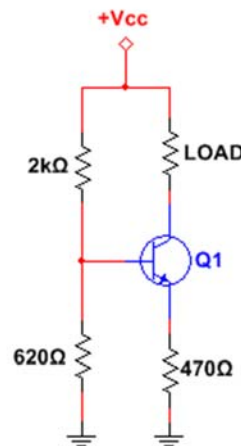

Fig. 3: Problem 5
- 5) A voltage divider can be used to bias a transistor current source (Fig. 3). Assume "quick" analysis parameters for Q1.